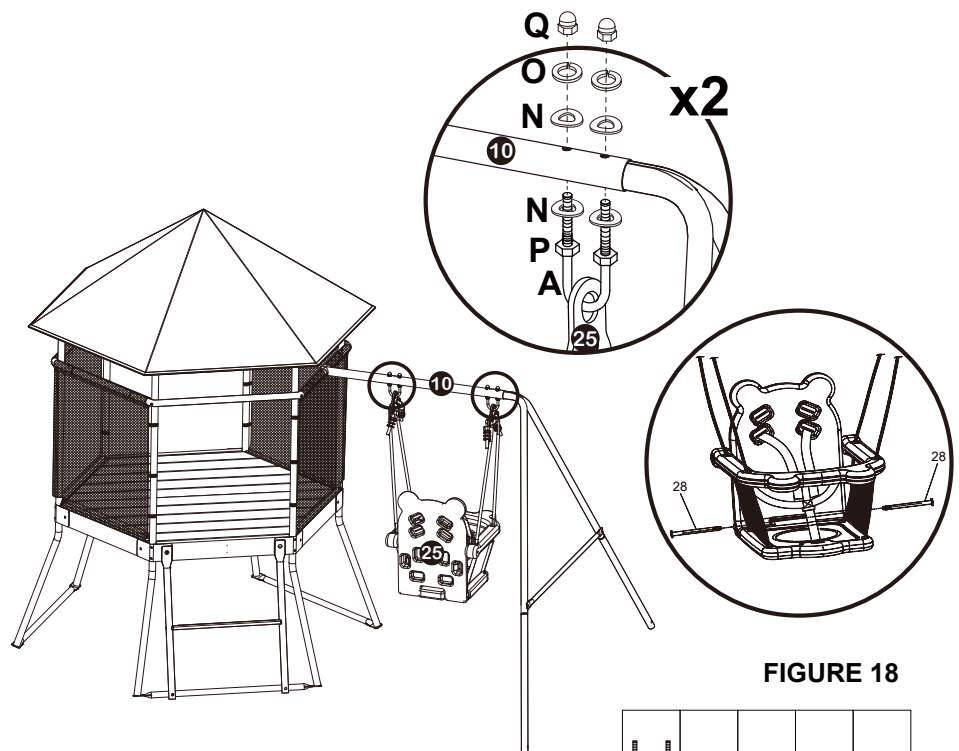

FIGURE 18
- Insert the Buckle(28) to lock the swing.
- Attach Toddler swing seat (25) to Beam (10) as shown in Figure 18.